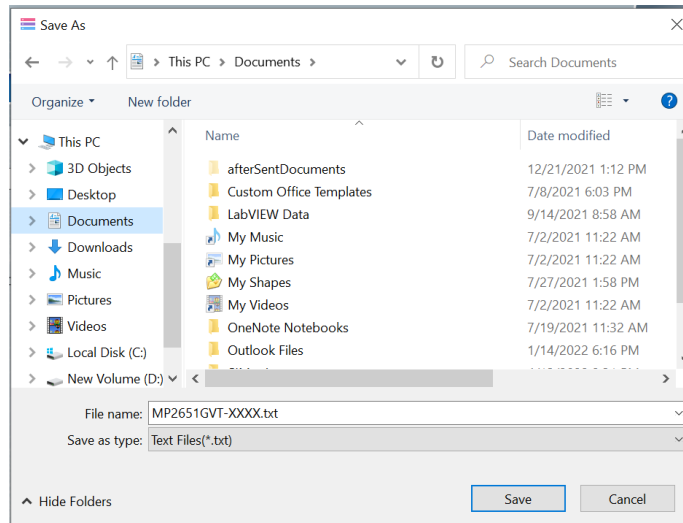

Figure 14: Export to the Desired Location
- Find a location for the exported file and click “Save”. The configurations should be saved in a text file (see Figure 14).